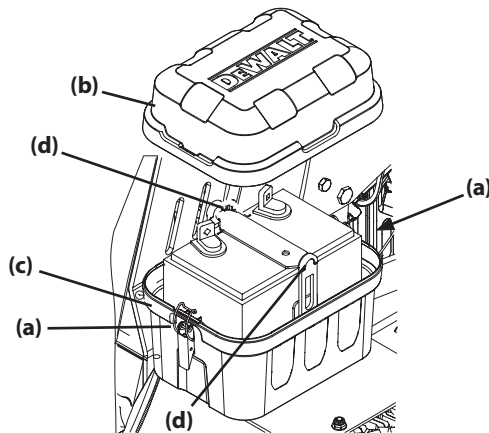

Figure 20
1. Release the two latches (a) securing the battery cover (b) to the battery box (c) and remove the battery box lid. See Figure 20.